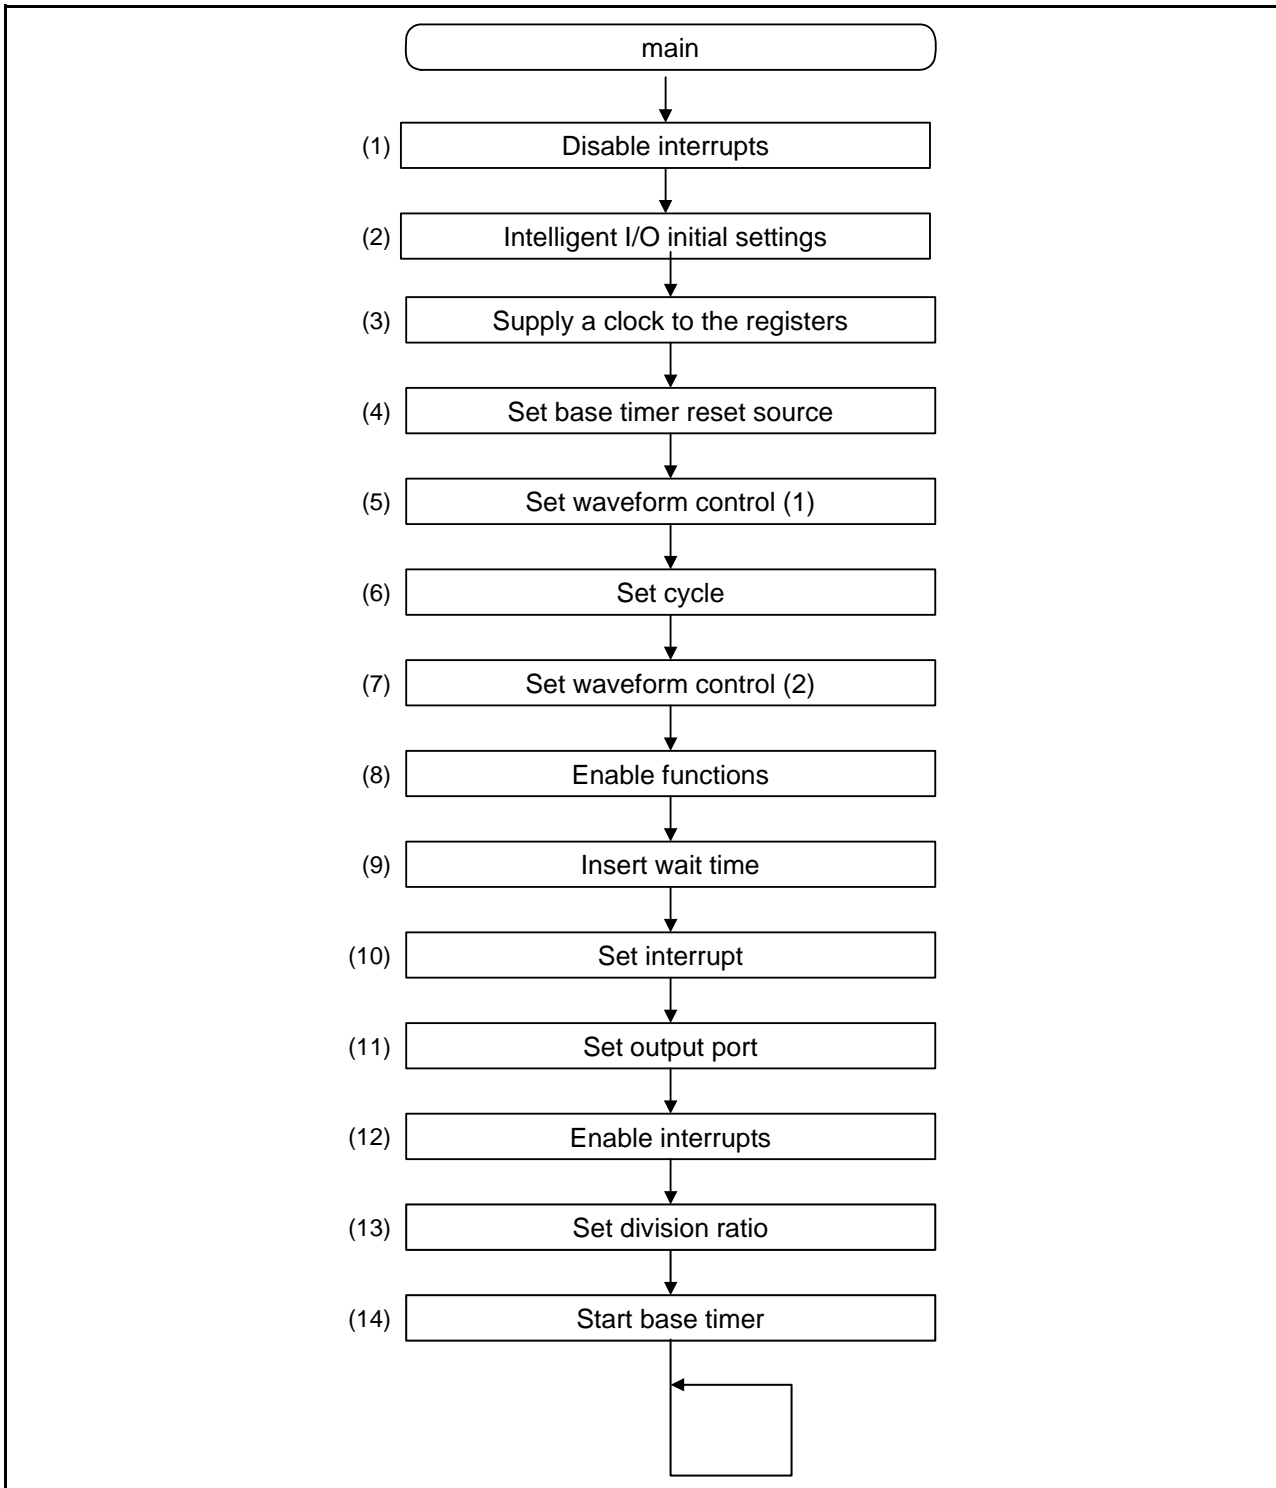
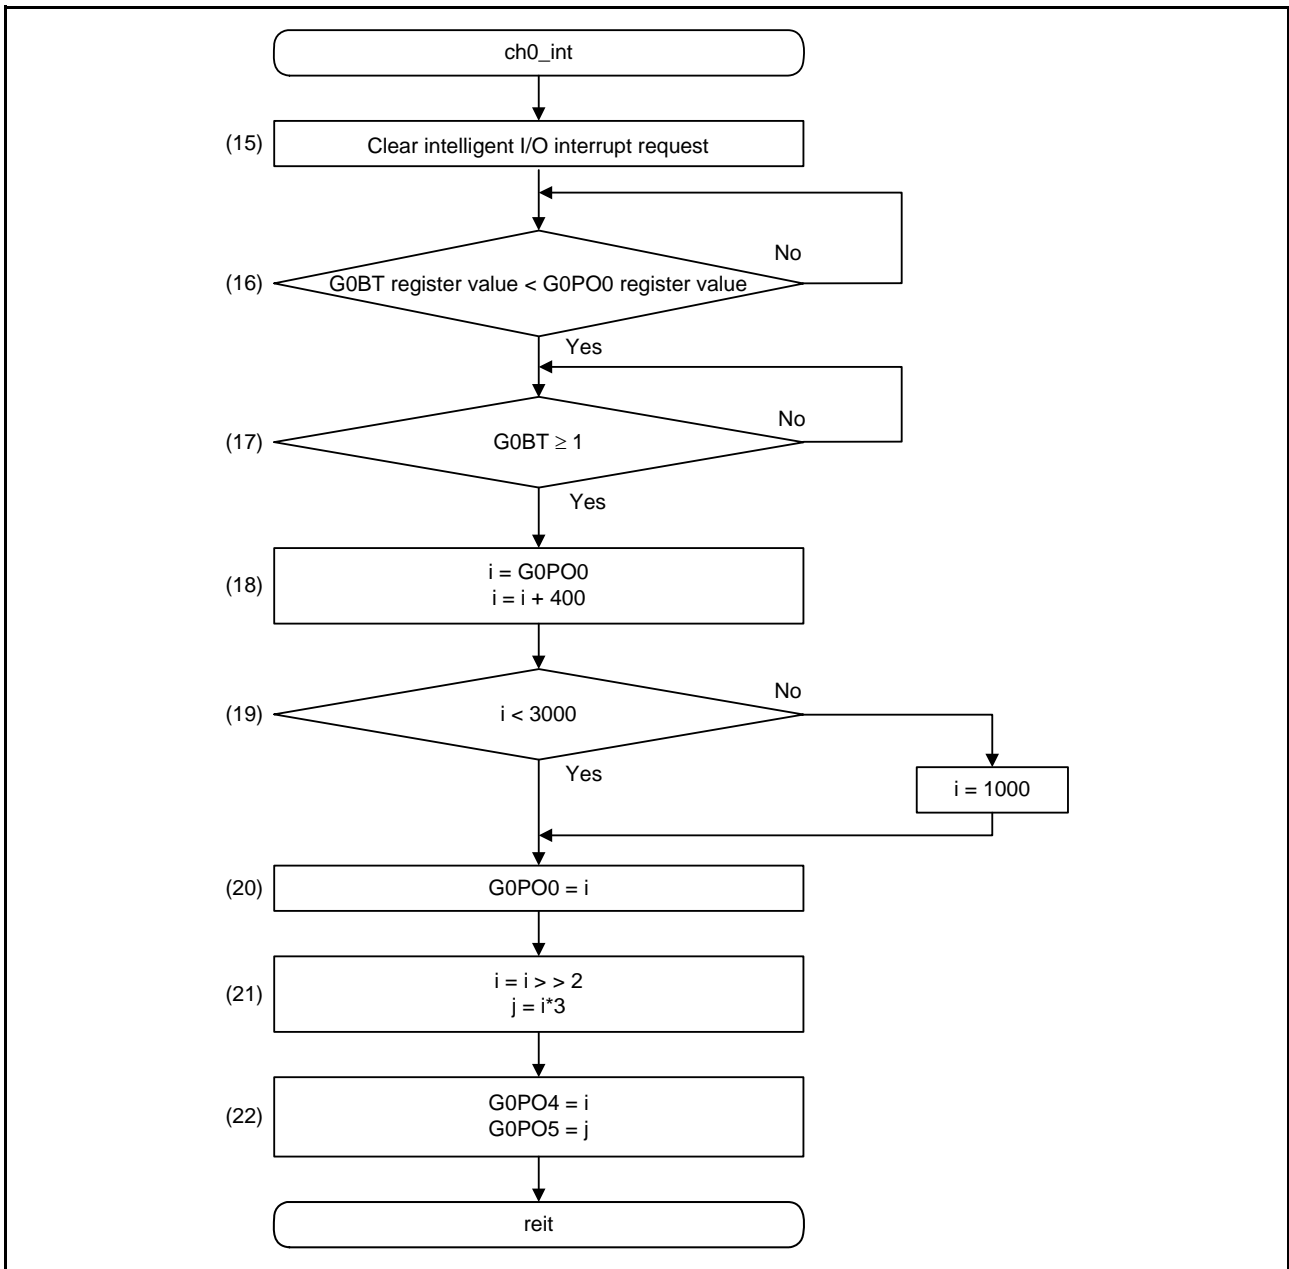

Figure 5.4 Program Flowchart of Main Function
Figure 5.5 Intelligent I/O Interrupt Function Flowchart
Figure 5.4 shows the Program Flowchart of Main Function. Figure 5.5 shows the Flowchart of Intelligent I/O Interrupt Function. Note that the numbers (1) through (22) in the diagram correspond to the flowchart numbers of the sample program.